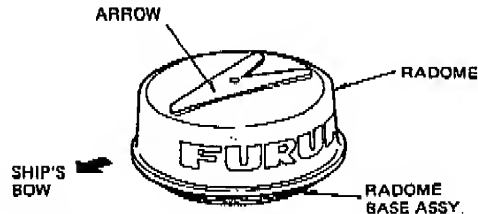

Fig.8 Radome Cover Placement
10. Install the radome on the radome base assembly, being careful of its direction. The arrow mark should face the bow direction. See Fig.8.